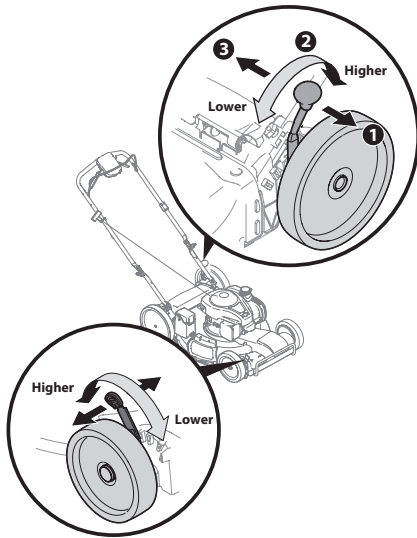

Figure 2-12
- Pull the height adjustment lever towards wheel (unit will tend to fall when lever is moved outward). See Figure 2-12.